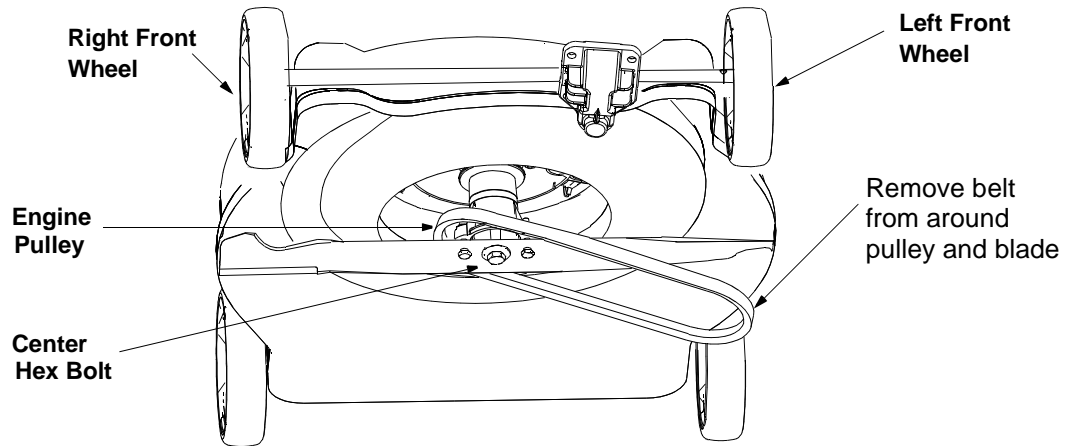

Figure 21
- Remove the belt from the engine pulley and around the blade. See Figure 21.